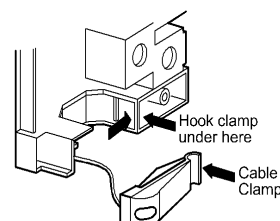

Fig. 6
- Lift cover and remove screw from cable clamp. See Fig. 6.